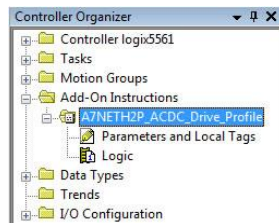

Figure 35: AC/DC Drive Profile Add-On Instruction
- 2) Right click on “Add-On Instructions” in the controller organizer view and select “Import Add-On Instruction”. Browse and import the AC/DC drive profile add-on instruction. Refer to Figure 35.